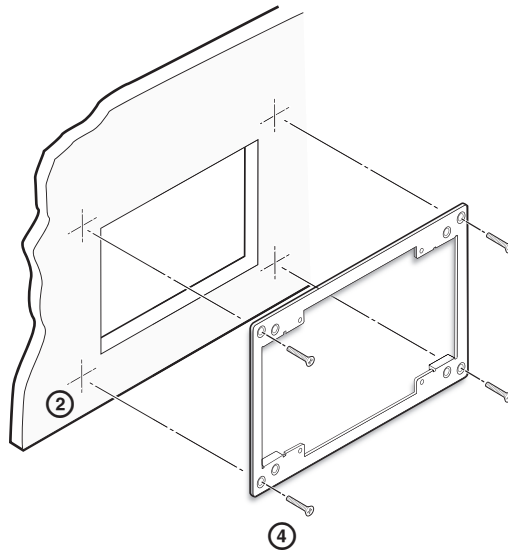

Figure 4. Installing the Mud Ring Directly into the Mounting Surface
4. Use four 0.5 inch (1.3 cm) long, #6 flat headed wood screws to fasten the mounting bracket directly onto wood surfaces; or use self-tapping sheet metal screws to fasten the bracket to metal (see figure 4).